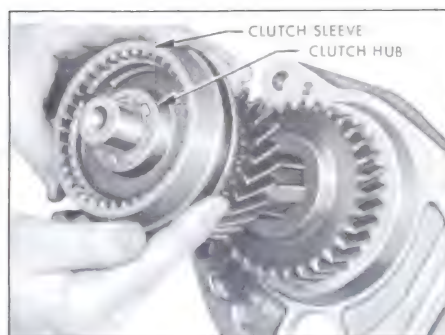

Figure 4-96—Installing 2nd & 3rd Speed Clutch Hub & Sleeve
sleeve on clutch hub as shown in Figure 4-96.
8. Install sleeve, hub, and synchronizing ring assembly on mainshaft. See Figure 4-96.